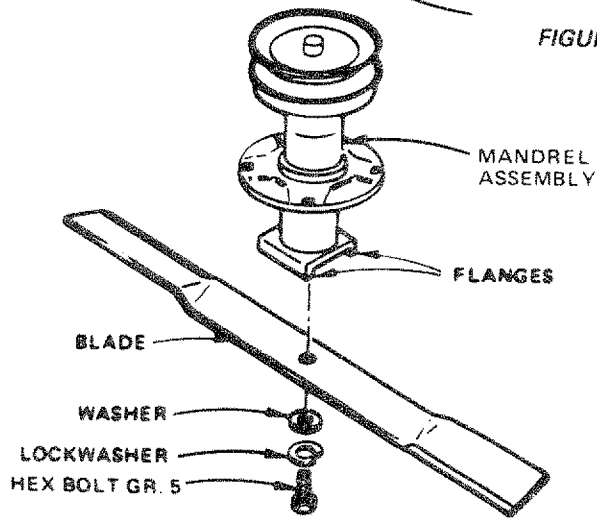

FIGURE 43
- a. Remove bolt, lockwasher and washer (Fig. 43) (turn counterclockwise) (↺).